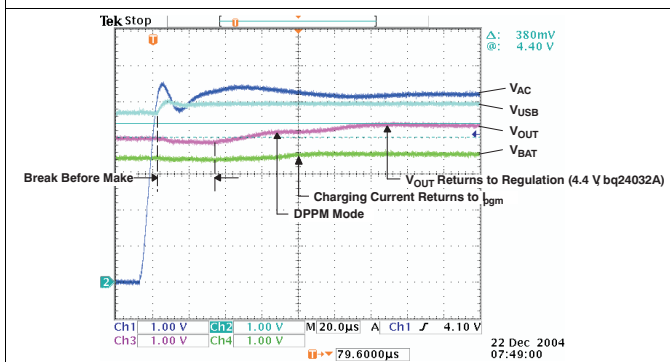

Figure 12. Apply AC – PWR XFER From USB to AC
**Figure 12** illustrates when AC is applied, power transfers from USB to AC; PSEL = H; channel 1 (CH1)  $V_{AC} = 5.4$  V; channel 2 (CH2)  $V_{(USB)} = 5$  V; channel 3 (CH3)  $V_{OUT}$ ; output current,  $I_{OUT} = 0.25$  A; channel 4 (CH4)  $V_{BAT} = 3.5$  V; and  $I_{(PGM-CHG)} = 1$  A. The charger is set for AC priority but is running off USB until AC is applied. When AC is applied (1st div) and the USB FET opens (2nd div), the AC FET closes (3rd div) and the output recovers from the DPPM threshold (8th div).